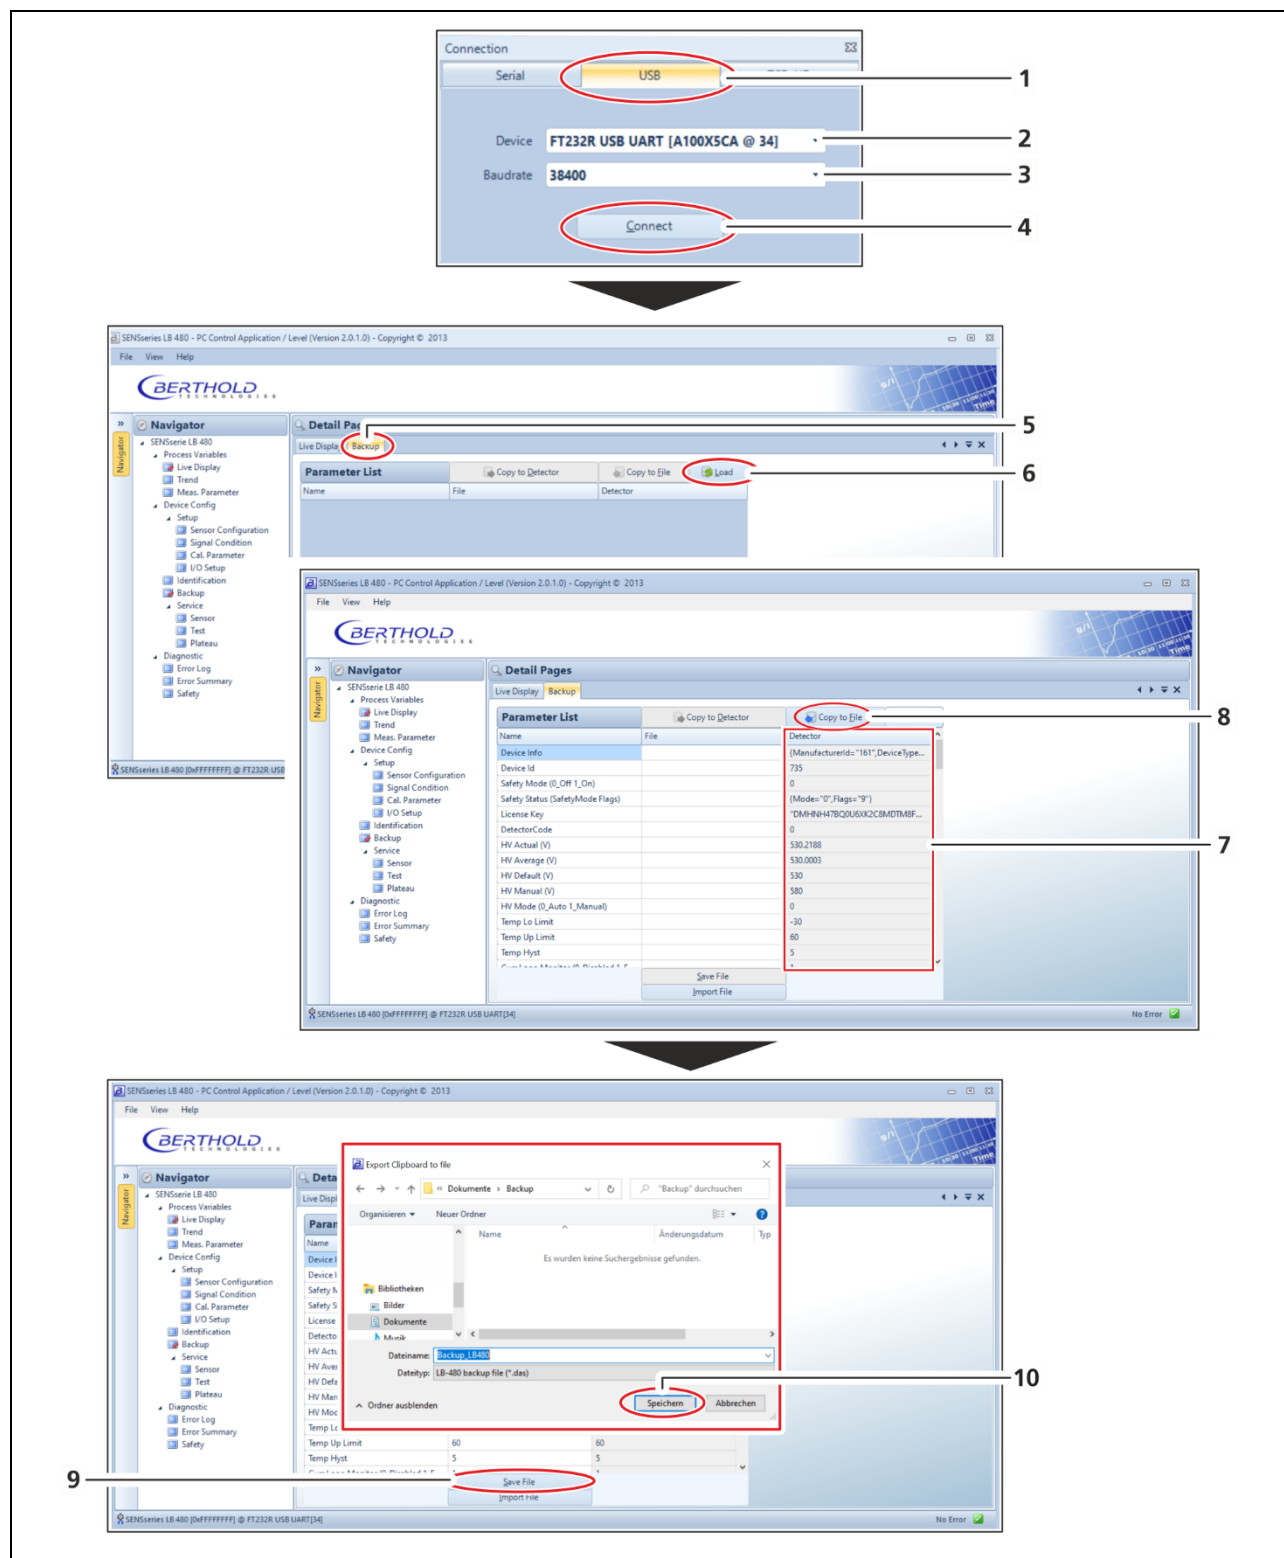

Fig. 2 Data backup using *LB 480-PC UserInterface Level*
10. Start the software *LB 480-PC UserInterface Level* and click on the tab "USB" (Fig. 2, Pos.1).
11. Select the service modem under "Device" (Fig. 2, Pos.2).
12. Select 38400 Baud under "Baudrate" (Fig. 2, Pos.3).
13. Click on <Connect> (Fig. 2, Pos.4).
14. In the menu tree **Device Config ▶ Backup** (Fig. 2, Pos.5) click on <Load> (Fig. 2, Pos.6).
- ▶ All parameters are displayed in the column “Detector” (Fig. 2, Pos.7).
15. Click on the button <Copy to File> (Fig. 2, Pos.8).
16. Click on the button <Save File> (Fig. 2, Pos.9).
17. Select a location for the backup file and click on the button <Save> (Fig. 2, Pos.10).